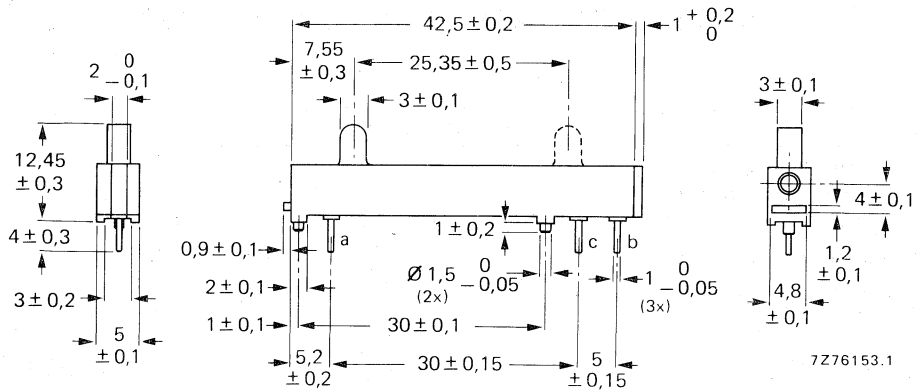

Fig. 1a Potentiometer with symmetrically placed slider.
Dimensions are identical with those in Fig. 1a except as shown.
- 1 = symmetrically placed (Fig. 1a)